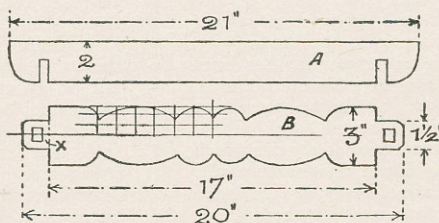
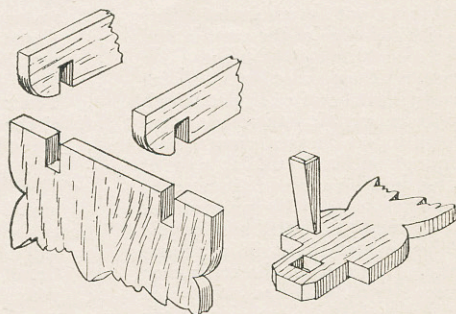

Fig. 2—Details of the rails
Fig. 3—The top rail fixing Fig. 4—How the wedges fit
The construction of the stool is shown in the details, Figs. 2, 3 and 4. There are two legs, having at their top edges two slots into which fit the pair of rails shown at A in Fig. 2. At Fig. 3 the rails are shown ready to be dropped into their corresponding slots.
At a distance of 6ins. up from the bottom of the legs are small mortises, into which fit the tenons of the cross-shaped rail B, Fig. 2. This rail is fastened in a real old-time style, by wedges inserted through holes made at the ends as detailed in Fig. 4.
The lower cross rail (B) in Fig. 2 has its shaping carried out in much the same way as the legs. One quarter of the outline is done direct, the remainder being finished with the carbon paper, using both the centre lines in the process of drawing.
Note the length of 17ins., and see the width between the dotted line at x, Fig. 2, and the edge of the square hole at each end of the rail is $\frac{3}{8}$ in. So when the legs are put on and the tenons pushed through, these will have clearance enough for the wedges to pull the parts closely and rigidly together.
We can now turn our attention to the shaping of the boats, of which 14 are required. They are cut from $\frac{1}{4}$ in. material $1\frac{1}{8}$ ins. long and $7/16$ in. wide. The forward boats, of which only two are required, are a little shorter. All of them can be nicely shaped up with knife and glasspaper, according to the curves shown in Fig. 3.